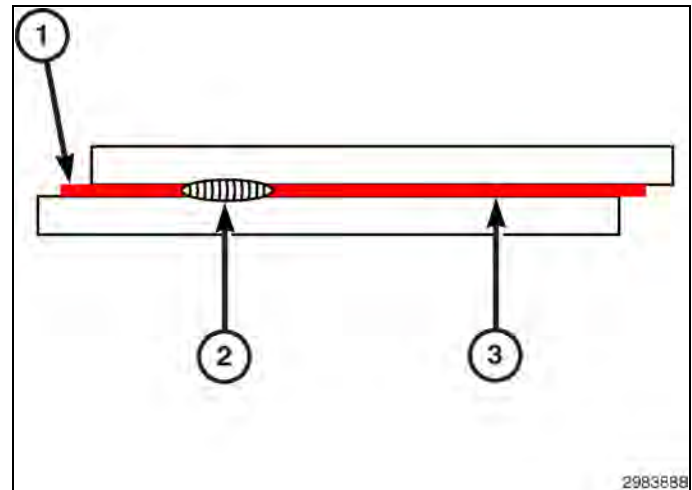

Fig. 13 Current Level Low for Both Welds
9. Destructively test the **second** weld to determine the size of the resistance spot weld produced (see examples in (Fig. 13) If the weld is insufficient, adjust the welder per the welder manufacturer recommendations and repeat steps 7,8 and 9 until the proper weld size is achieved.